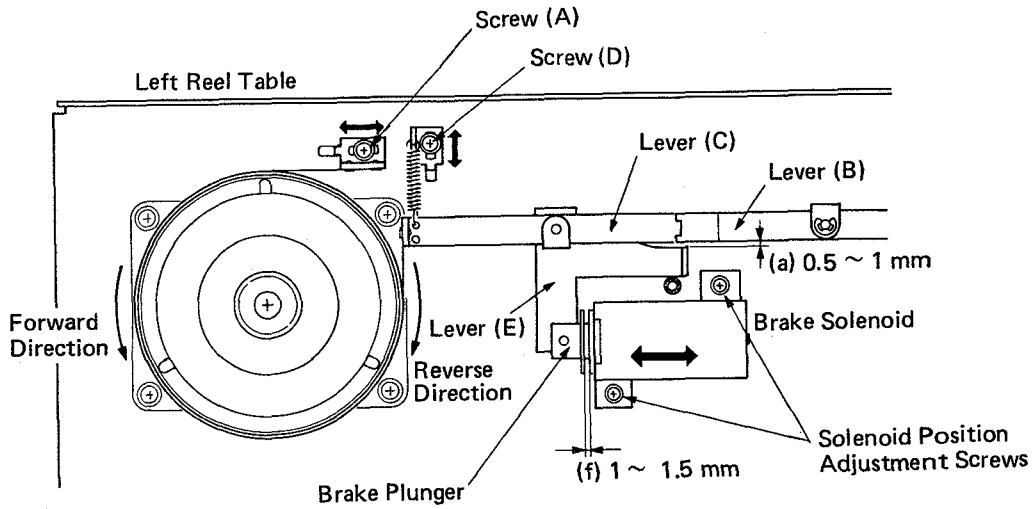

FIG. 12. BRAKE MECHANISM & TORQUE ADJUSTMENTS
1. Refer to Fig. 12. Adjust the (A) screw so clearance (a) is within 0.5 and 1 mm.
3. If forward brake torque is not within specifications, adjust the spring hanger hooking position by loosening screw (D) shown in Fig. 12. If this adjustment has no effect or